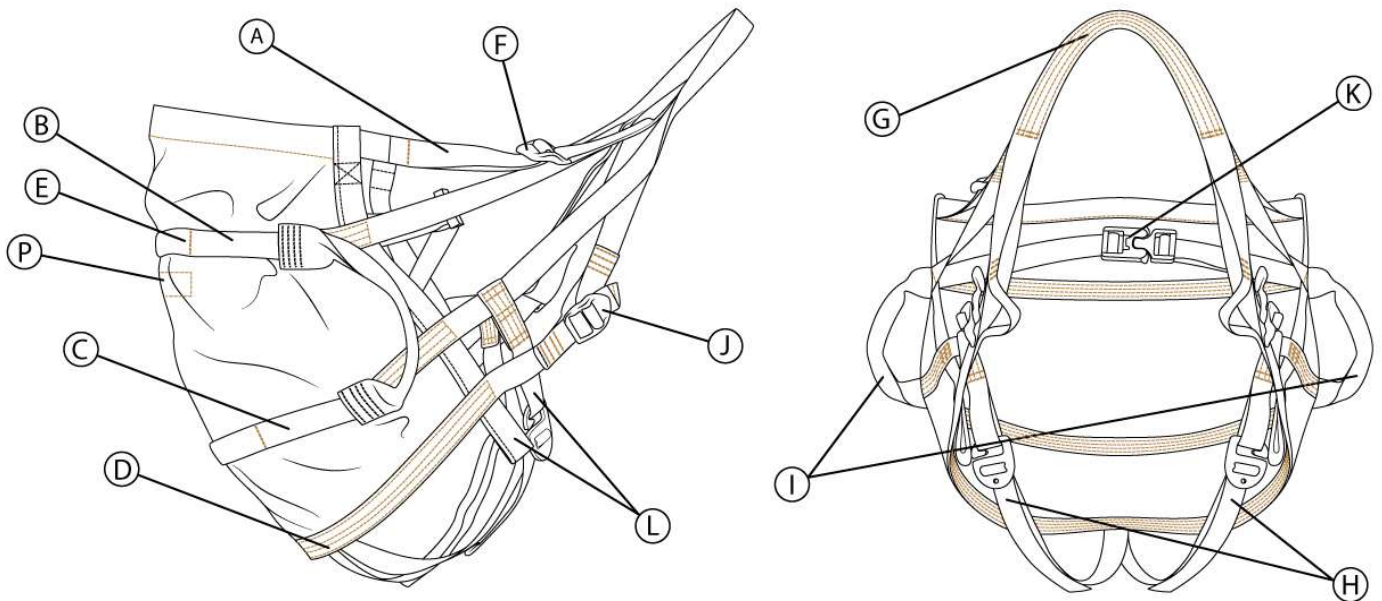
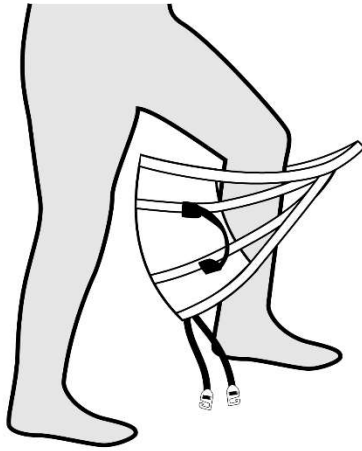
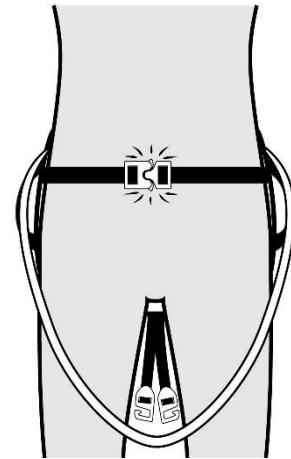
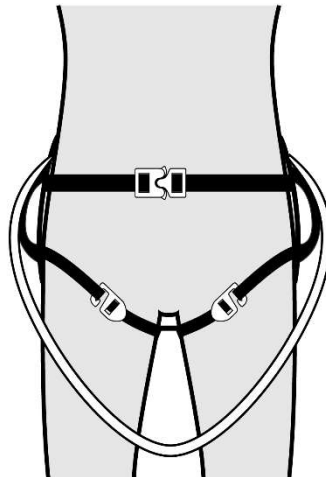

Figure 1
Figure 2
Figure 3
Figure 4
1. Orient the saddle: (Figure 1)
- a. Locate the Tuebor label patch (P) for quick reference. Leg straps (H) will be at the bottom of the saddle.
2. Step through the bridge loop (Figure 2)
- a. While holding the bridge loop (G) with your hand, step into the saddle one foot at a time.
3. Attach belt at the 'waist' level: (Figure 3)
- a. Locate the belt and belt buckle (K) found on strap B (B). Belt straps are GREEN.
4. Locate and attach the leg straps: (Figure 4)
- b. Using the G-hooks (see Figure 4 above), connect leg straps (H) to one of two leg strap receiving loop points (L) per side. Cinch to desired comfort level.